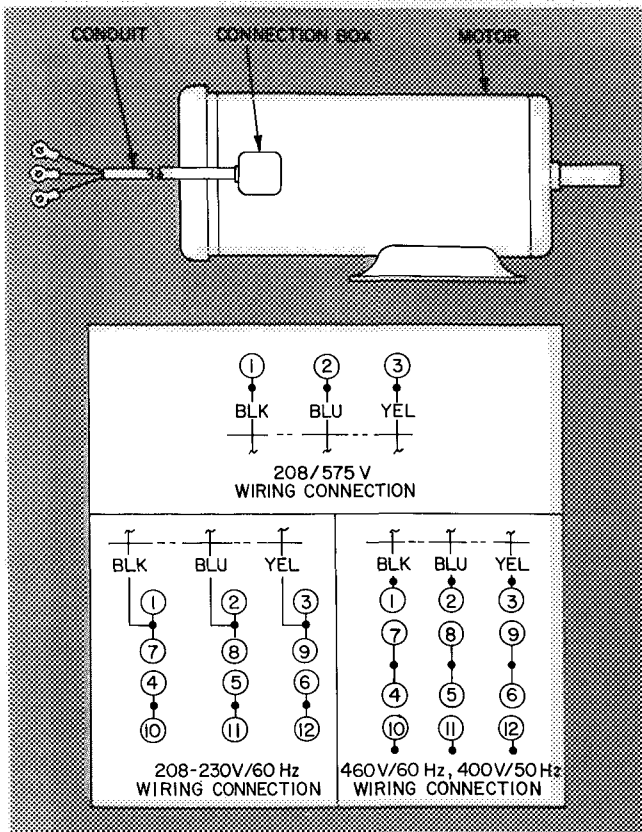
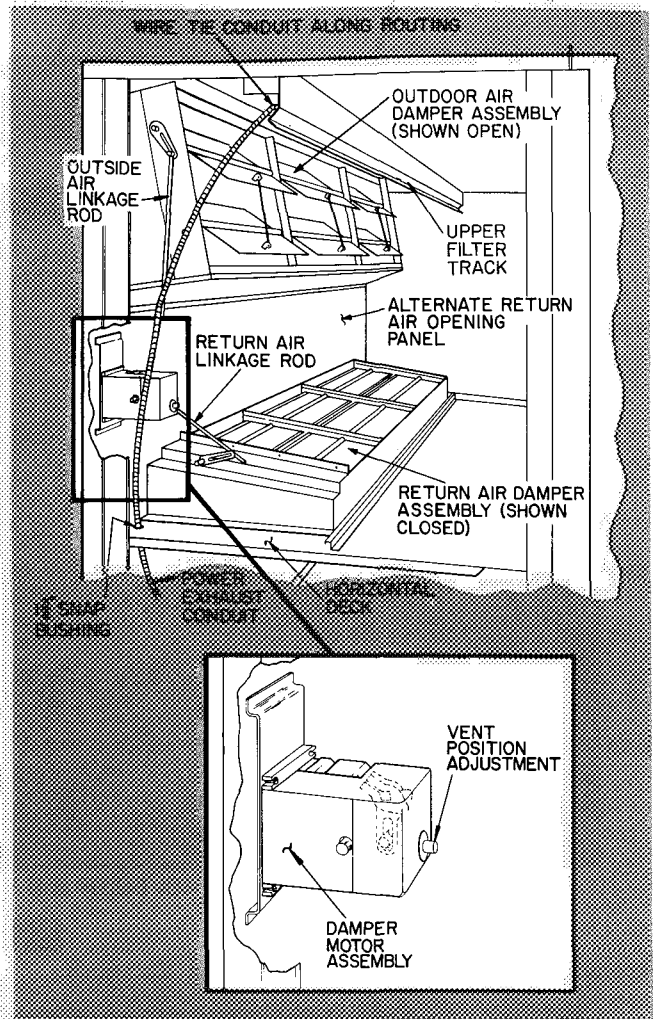
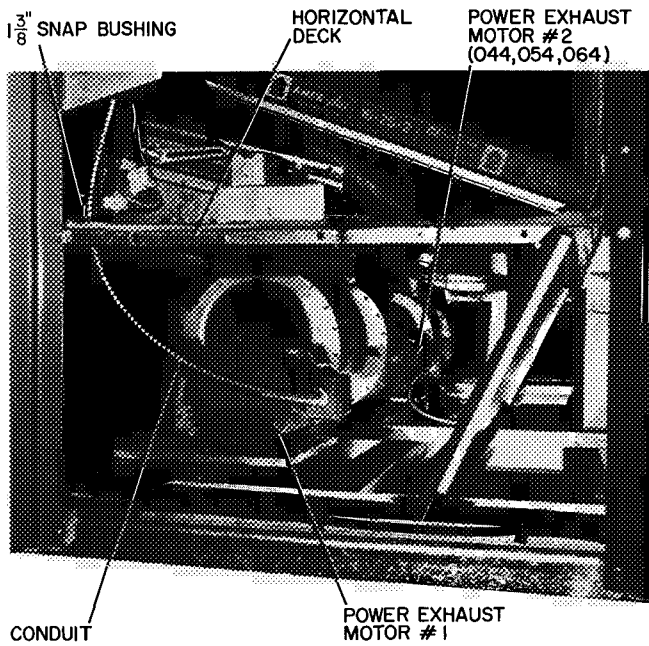

Fig. 6 — Power Exhaust Motor and Connection Diagram
Fig. 8 — Exhaust Motor Conduit Routing
Fig. 7 — Power Exhaust Details
- Fig. 6 for 208-230 v and 230 v. Replace connection box cover. Position mounting plate with motor on "Z" fan support and motor support angle and loosely attach mounting plate to supports with four 3/8-in. bolts, washers and lock washers from package. Power exhaust motor conduit is to rear (inside) of unit (Fig. 7). Fan pulley and motor pulley should be in alignment. If not, loosen 3/8-in. bolts that secure motor to mounting plate and align pulleys. Tighten bolts. Install belts on pulleys. Adjust mounting plate so that pulleys have approximately 1/8-in. play. Tighten 3/8-in. bolts in mounting plate.
7. Install 1-3/8 in. snap bushing in horizontal deck (Fig. 7 and 8). Route power exhaust conduit thru bushing to upper filter track. Run conduit across top filter track to knockout in condenser section partition. Secure with wire ties at holes provided. (Reach in thru open economizer outdoor air damper blades to install wire ties. See Fig. 8.) Remove fan guard, fan and fan motor from condenser section adjacent to filter compartment. Secure conduit connector to condenser partition. Seal the connector and wiring extending into condenser compartment with RTV or equal. The seal must be watertight on both sides of partition. Form drip loop with wires in condenser section after passing thru partition.